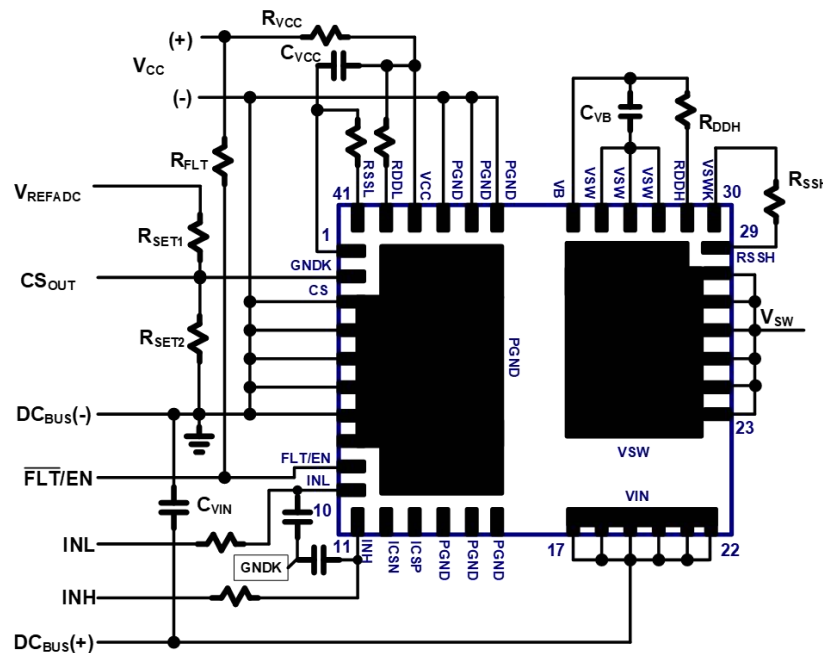

Fig. 23. IC connection diagram
The typical connection diagram for this GaN Half-Bridge IC is shown in Fig. 23. The IC pins include the drain of the high-side GaN power FET (V_{IN}), the half-bridge mid-point switched node (V_{SW}), the source of the low-side GaN power FET and IC GND (P_{GND}), low-side IC supply (V_{CC}), low-side turn-on dV/dt control (R_{DDL}), low-side turn-off dV/dt control (R_{SSL}), low-side referenced PWM inputs (IN_L , IN_H), low-side current sensing output (CS), \overline{FLT}/EN pin for enabling the device and internal fault detection, high-side supply (V_B), high-side turn-on dV/dt control (R_{DDH}), high-side turn-off dV/dt control (R_{SSH}). The external low-side components around the IC include V_{CC} supply capacitor (C_{VCC}) connected between V_{CC} pin and P_{GND} , turn-on dV/dt set resistor (R_{DDL}) connected between V_{CC} pin and R_{DDL} pin, turn-off dV/dt set resistor (R_{SSL}) connected between the R_{SSL} pin and the $GNDK$ pin, current sense amplitude set resistors ($R_{SET1/2}$) connected between CS pin, V_{REFADC} and P_{GND} , and the \overline{FLT}/EN pull-up resistor (R_{FLT}) connected to V_{CC} for enabling the device and for internal fault detection. The external high-side components around the IC include V_B supply capacitor (C_{VB}) connected between V_B pin and V_{SW} , V_{DDH} supply capacitor (C_{VDDH}) connected between V_{DDH} pin and V_{SW} , turn-on dV/dt set resistor (R_{DDH}) connected between V_B pin and R_{DDH} pin, turn-off dV/dt set resistor (R_{SSH}) connected between the R_{SSH} pin and the $VSWK$ pin. The high side V_B bypass capacitor must be chosen carefully to accommodate various system considerations such as high side wake up time and high side hold up time.